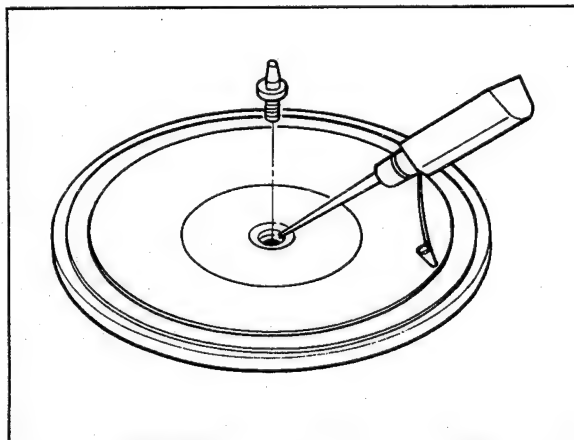

*Fig. 3-4. Lateral balance adjustment*
4. Slide the lateral balance weight towards the same direction as the tonearm movement until lateral balance is obtained. (See Fig. 3-4).